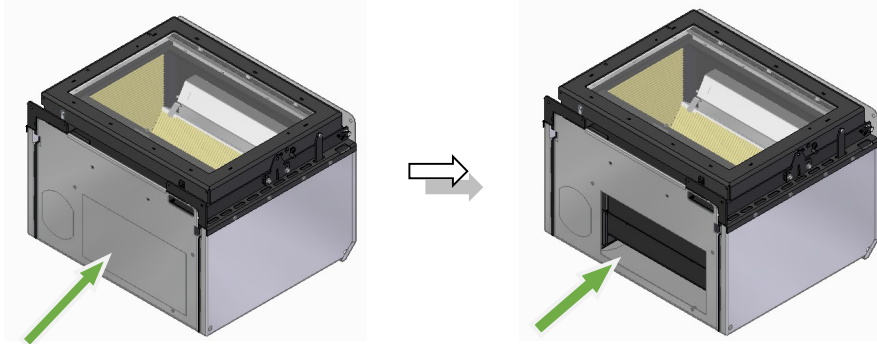

**Figure 51 – Door handle adjustment, micro-switch actuation**
d. After placing the components in the equipment, Figure 50, you must adjust the switch that is under the door, so that the door after closing the switch activates the micro-switch, see Figure 51.